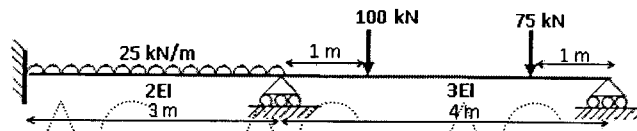

Figure: 2
g) Determine the distribution factors of a beam supported and loaded as shown in figure 2. [2]